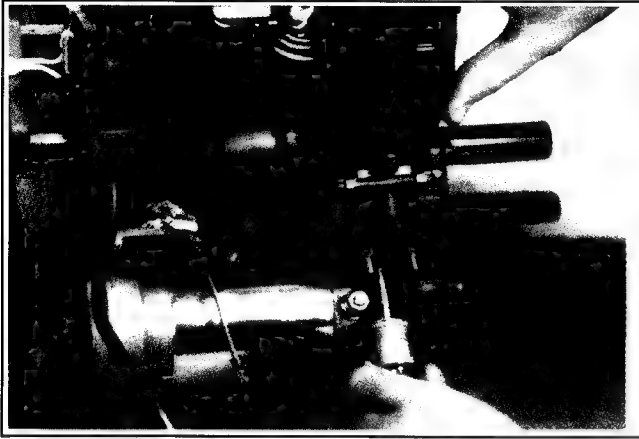

Figure 9-11. Removing Solenoid.
1. If the engine is equipped with a cranking solenoid, disconnect all leads, remove the two hex. flange mounting screws, and remove the solenoid. See Figure 9-11.